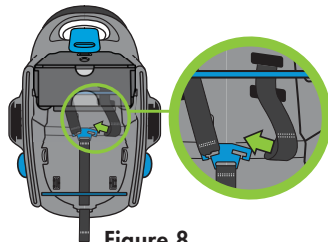

Figure 8
- Hold the silver Metal Harness Plate straight up ensuring there are no twists in the Harness Adjuster Strap, and slide the loop end of each Shoulder Harness Strap through the slot in the Metal Harness Plate, ensuring that each Strap is completely inside the slot, as shown in **Figure 8**.